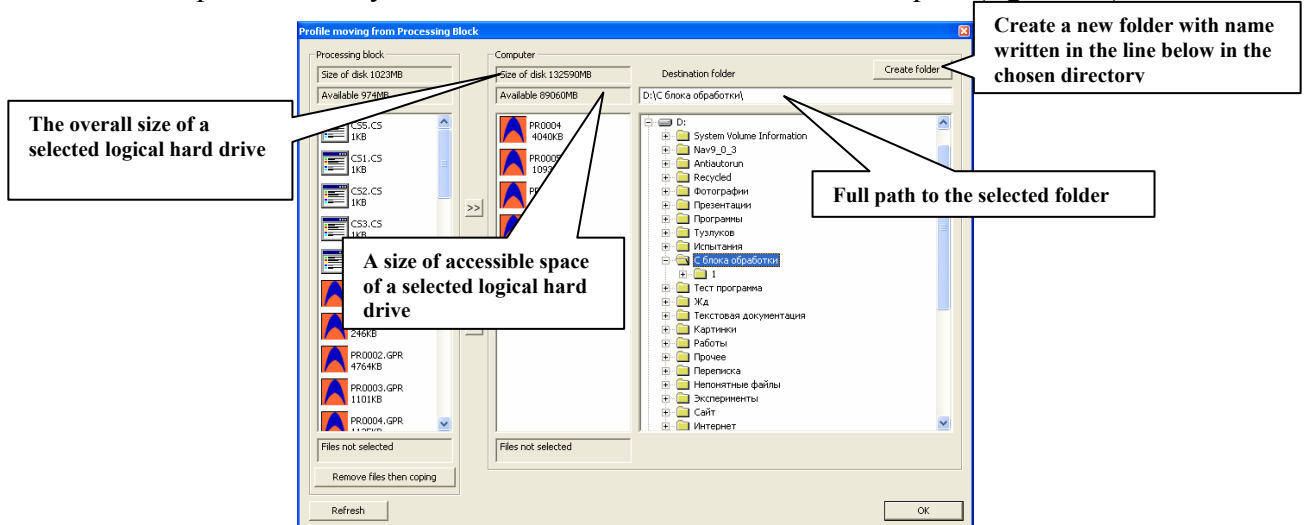

Figure 4.4. Window “Transferring profiles from a Processing Unit”
4. Chose a computer directory where all the files from BUOI will be copied (figure 4.4).